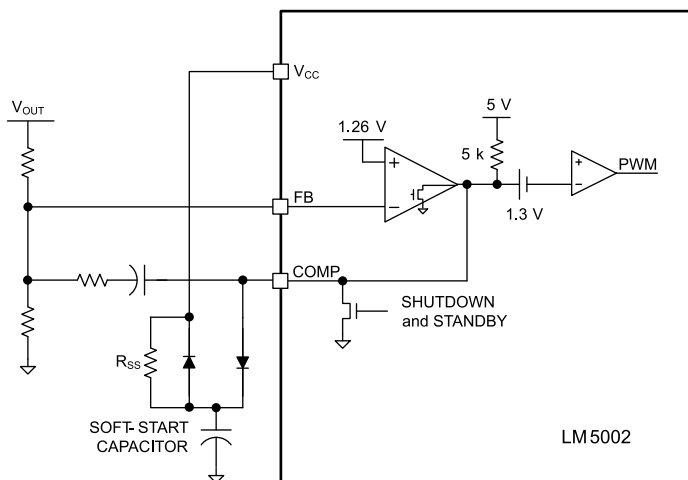

Figure 8-4. Soft-Start Circuit
Internal thermal shutdown circuitry is provided to protect the IC in the event the maximum junction temperature is exceeded. When the 165°C junction temperature threshold is reached, the regulator is forced into a low power standby state, disabling all functions except the VCC regulator. Thermal hysteresis allows the IC to cool down before it is re-enabled. Note that because the VCC regulator remains functional during this period, the soft-start circuit shown in Figure 8-4 must be augmented if soft start from thermal shutdown state is required.
Soft start (SS) can be implemented with an external capacitor connected to COMP through a diode as shown in Figure 8-4. The COMP discharge MOSFET conducts during Shutdown and Standby modes to keep the COMP voltage below the PWM offset (1.3 V), which inhibits PWM pulses. The error amplifier attempts to raise the COMP voltage after the EN pin exceeds the 1.26 V standby threshold. Because the error amplifier output can only sink current, the internal COMP pullup resistor (approximately 5 k $\Omega$ ) supplies the charging current to the SS capacitor. The SS capacitor causes the COMP voltage to gradually increase until the output voltage achieves regulation and FB assumes control of the COMP and the PWM duty cycle. The SS capacitor continues charging through a large resistance,  $R_{SS}$ , preventing the SS circuit from interfering with the normal error amplifier function. During shutdown, the VCC diode discharges the SS capacitor.